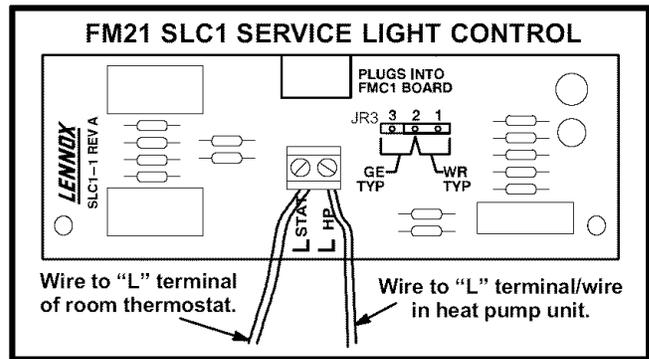

FIGURE 1
- 4 - Wire thermostat terminal "L" to the "L STAT" terminal on the SLC1 board using thermostat wire. See figure 1.